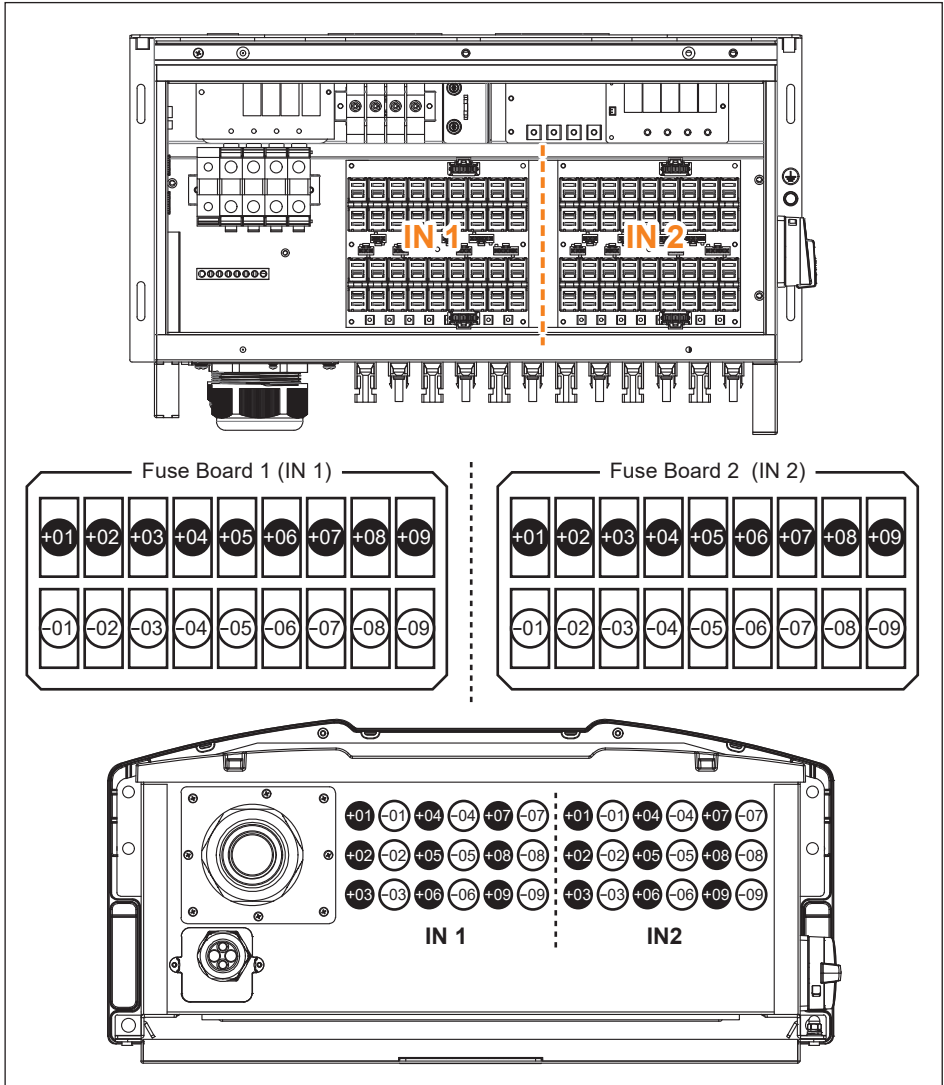
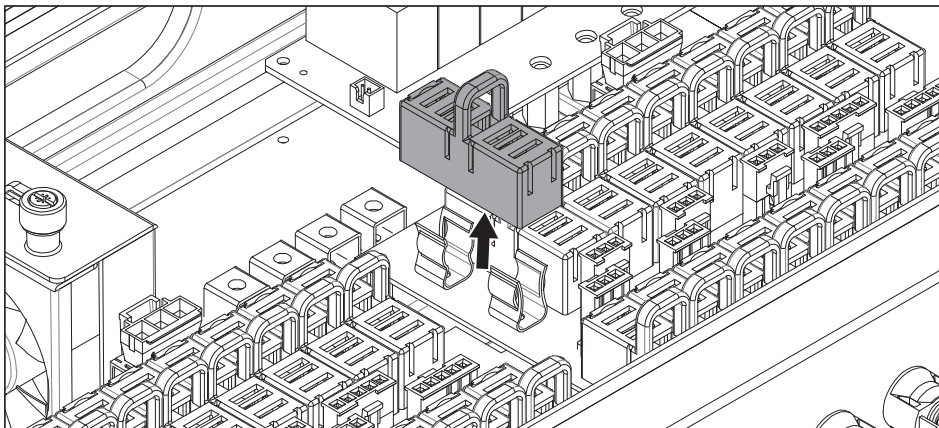

Figure 5-7 : Fuse holder locations for M88H_122
Figure 5-8 : Accessing the individual fuses for M88H_122
Figure 5-7 shows the location of the combiner fuse holders, and **Figure 5-8** provides details to remove a fuse from the -122 WB; refer to **Figure 2-4** for additional information.
4. Based on step 1, check the corresponding fuse locations by pulling out the fuse holder (**Figure 5-8**) and checking continuity of the fuse.